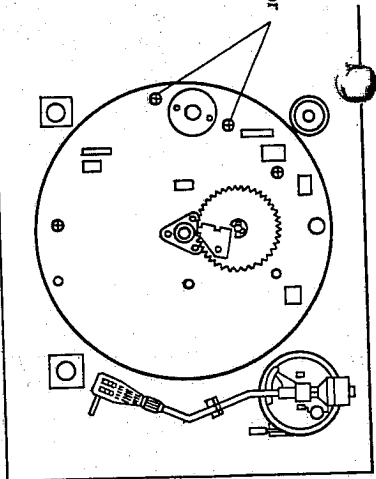

Fig. 1
2. Remove the two screws that hold down the motor during transportation. (Fig. 1)